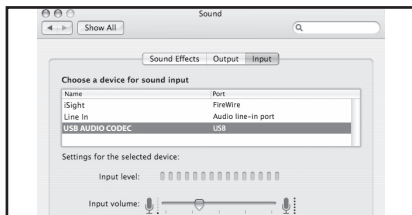

Figure 10
4. Now, click in the Input tab and select USB Audio Codec (figure 10). You may notice that the Volume slider sets itself to the full level. This will allow you to have full range using G Track's hardware input level controls.